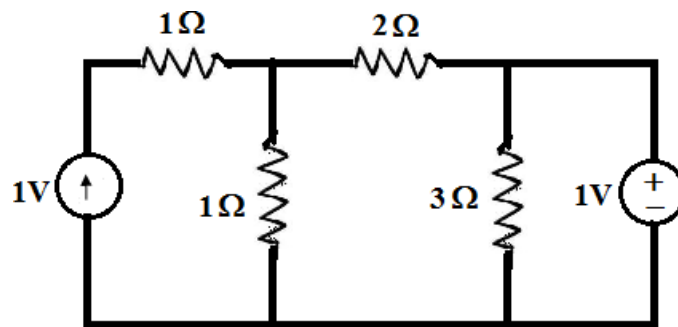

Figure 2
b) By using superposition theorem, find the current flowing through $2\ \text{ohms}$ resistor. (Figure 2) [8+7]